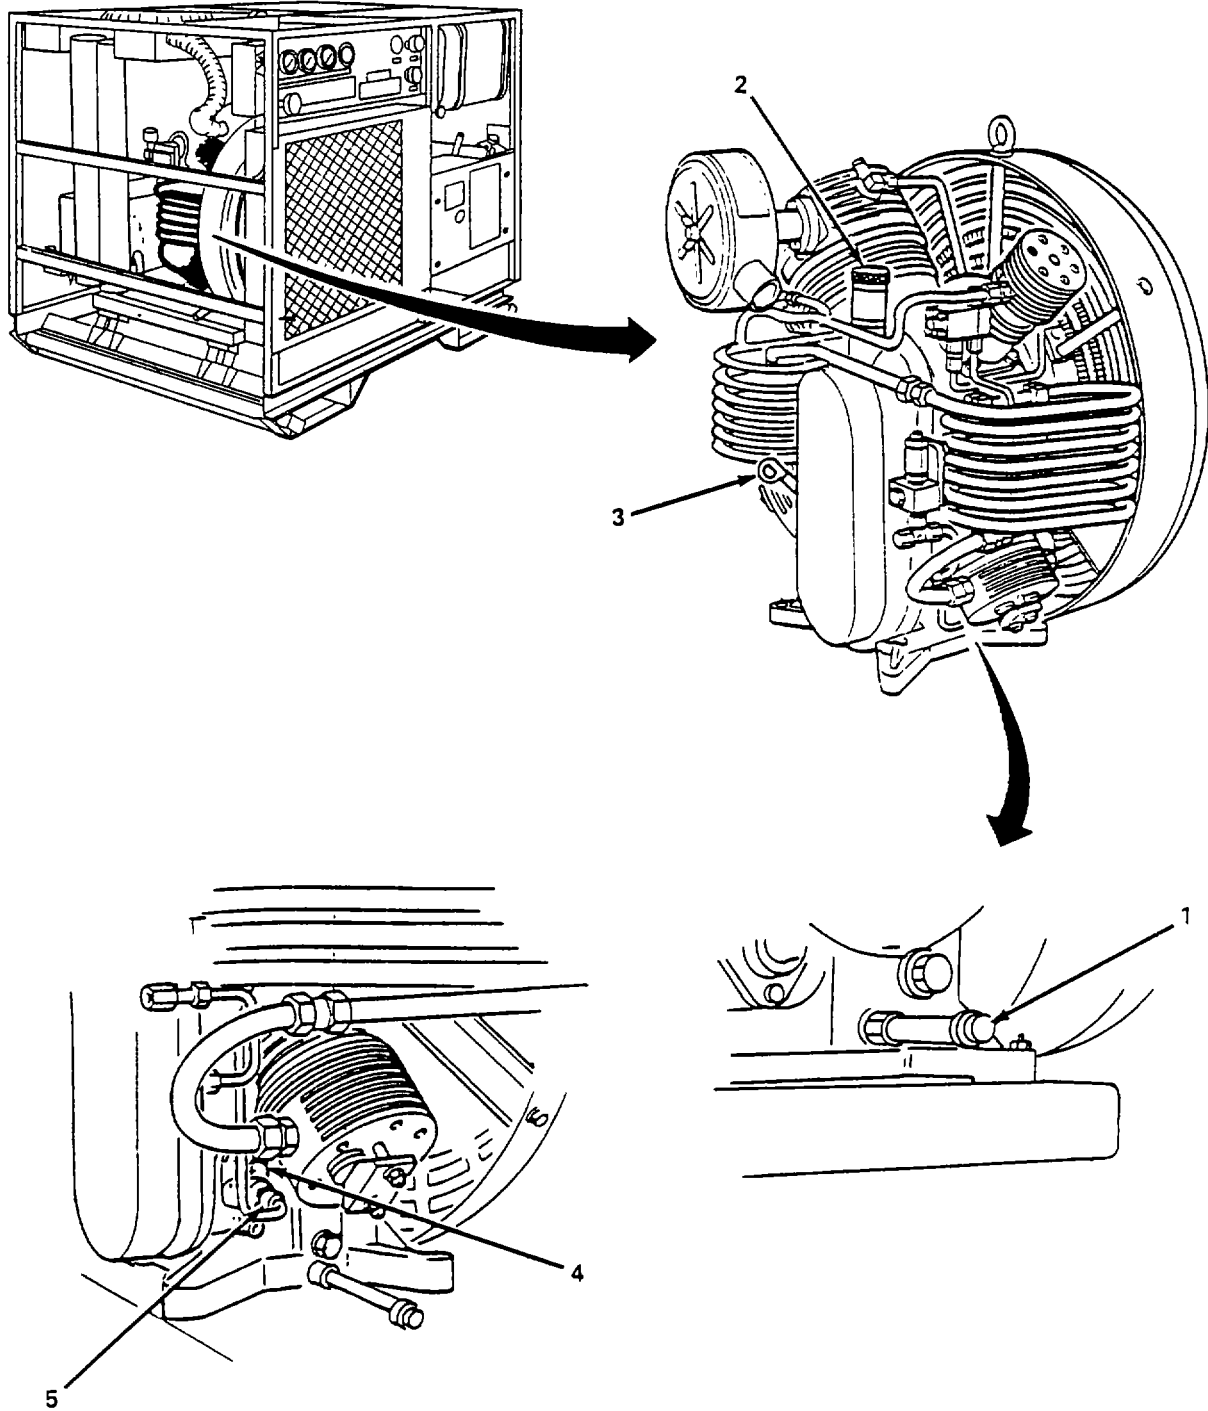
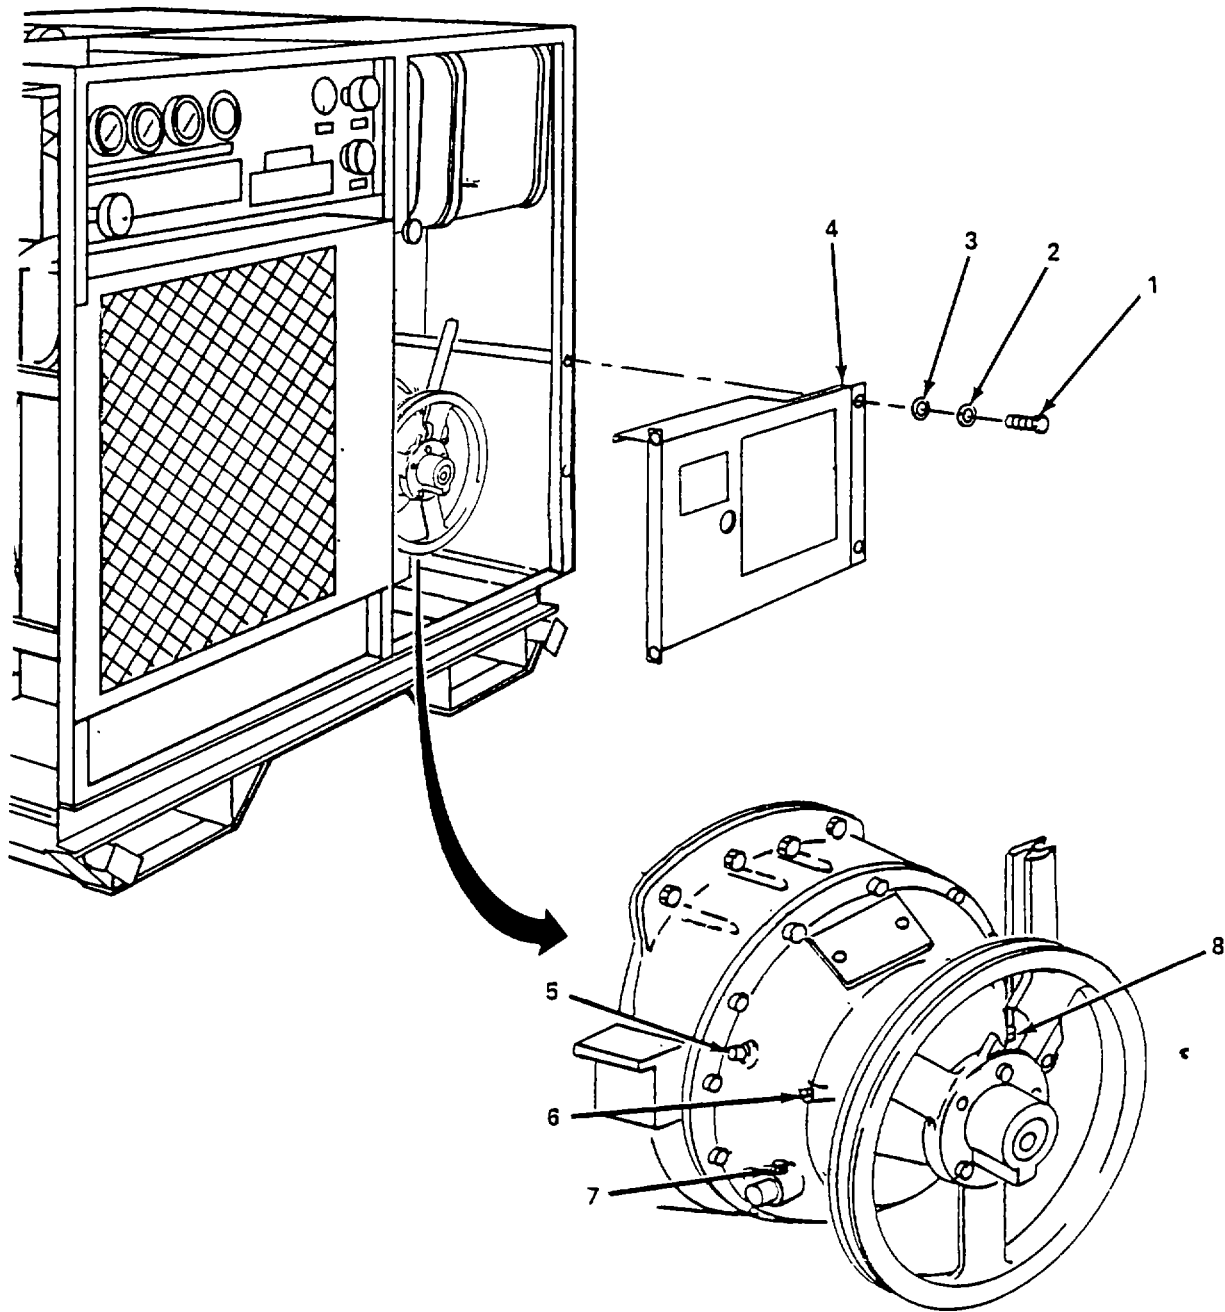

Figure 4-4. Servicing Compressor Oil.
Figure 4-5. Servicing Engine Clutch.
f. Compressor Oil. (figure 4-4)
- (1) The compressor oil level must be checked at eight hour intervals of operation or more often should oil consumption increase.
- (2) A new or reconditioned compressor shall have the oil changed after 25 hours of operation. Thereafter, the interval is lengthened to 250 hours.
- (3) Before draining the compressor, operate the compressor until the ENGINE HEAD TEMPERATURE gage on the instrument panel reads 110°F (46°C) to ensure suspension and drainage of particles.
- (4) Stop compressor unit, place container under drain plug (1) located on left side of compressor and remove drain plug.
- (5) After oil has drained completely, install drain plug (1).
- (6) Remove the oil filter cap (2).
- (7) Fill compressor with oil to the top indentation on dipstick (3).
- (8) Operate the compressor unit until the ENGINE HEAD TEMPERATURE reads 100°F (46°C)
- (9) To ensure proper operation of the oil pump, perform the following:
- (a) Loosen vent screw (4) by one or two turns until oil emerges free of air bubbles. Then tighten vent screw.
- (b) Loosen coupling (5) until bubble free oil emerges. Then tighten coupling.
g. Clutch. (figure 4-5) Remove the front panel on the compressor unit, and lubricate the following grease fittings with grease using hand operated grease gun as follows:
- (1) Remove four bolts (1), lockwashers (2), and washers (3) and remove panel (4).
- (2) Lubricate throw-out collar (5) one stroke of grease gun, every 10 hours.
- (3) Lubricate main shaft bearing (6). four strokes of grease gun, every 50 hours.
- (4) Lubricate lever shaft (7) (2 places), one stroke of grease gun, every 10 hours.
- (5) Lubricate pilot bearing (8), two strokes of grease gun, every 100 hours.
- (6) Install panel (4) and secure with four washers (3), lockwashers (2), and bolts (1).